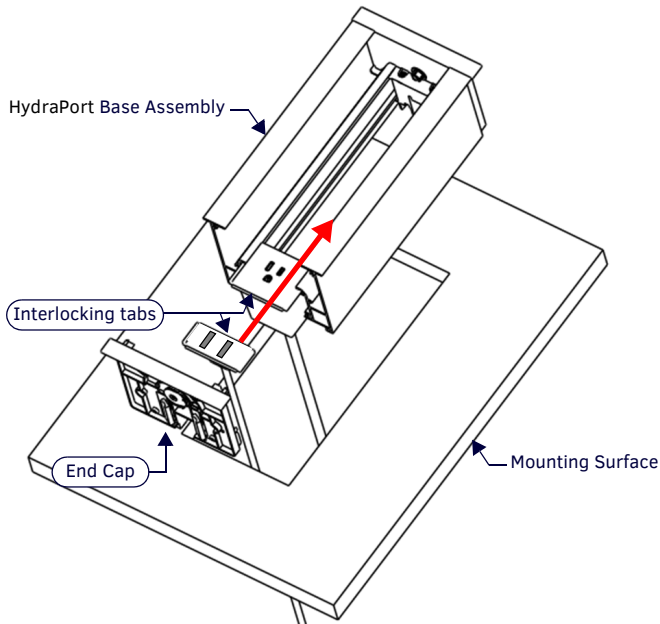

FIG. 5 INSTALLING THE HPX-N102-USB-PC MODULE
1. Remove the (silver) pivot screw and pivot pawl assembly in the center of the End Cap (FIG. 5).
1. Orient the module relative to the HydraPort base assembly so that the Module's faceplate is facing up, towards the mounting surface (FIG. 5).
3. Secure the End Cap with the six (black) sheet metal screws (removed in Step 2 - 2; see FIG. 5).
4. Replace the (silver) pivot screw and pivot pawl assembly (removed in Step 2 - 1, see FIG. 5) in the center of the End Cap.